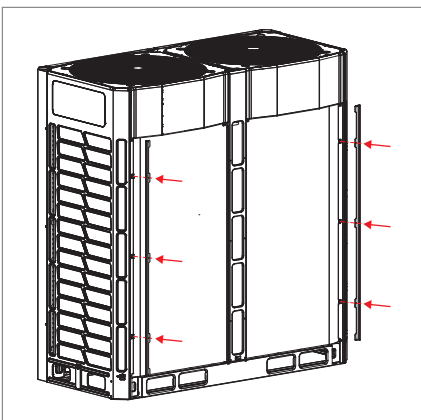

Fig. 17: Mounting the adapters
- Only for Belaria® VRF (67): Prepare the heat pump for the installation of the rear protection hoods.
- Instead of the protective grid, screw the enclosed adapters to the heat pump with the same screws (see Fig. 17).